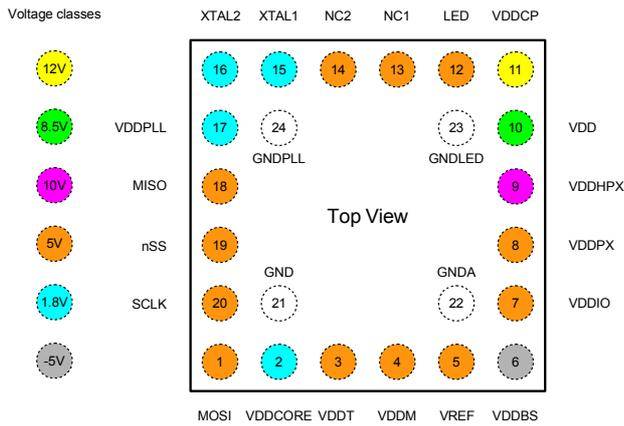

Figure 4: Pin configuration
**Note 3:** For voltage classes  $V_{SC}$  refer to Figure 4 and Table 4.